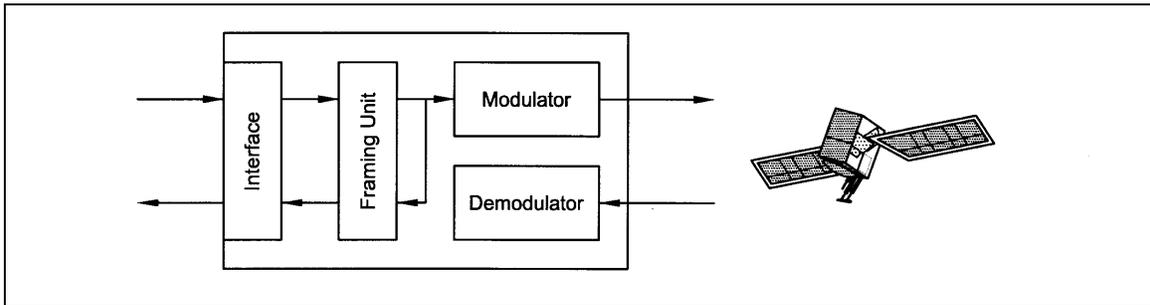

Figure 3-6. Tx Baseband Loopback
**Tx BB Loopback** – Terrestrial TX data after passing through the line interface and onto the baseband framing unit is looped back to the Rx data line drivers of the interface (refer to Figure 3-6).